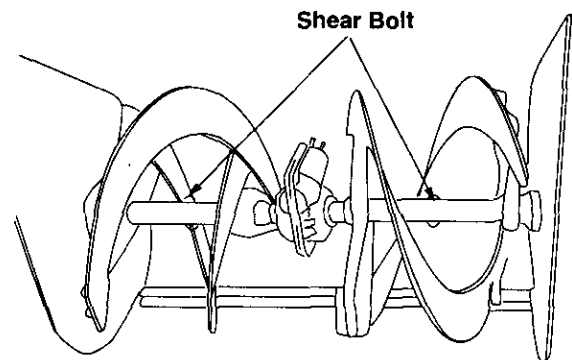

Figure 23
- If the augers will not turn, check to see if the bolts have sheared. Replace if necessary. See Figure 23. Two replacement shear bolts and hex lock nuts have been provided in Group D of the hardware pack. See page 5.